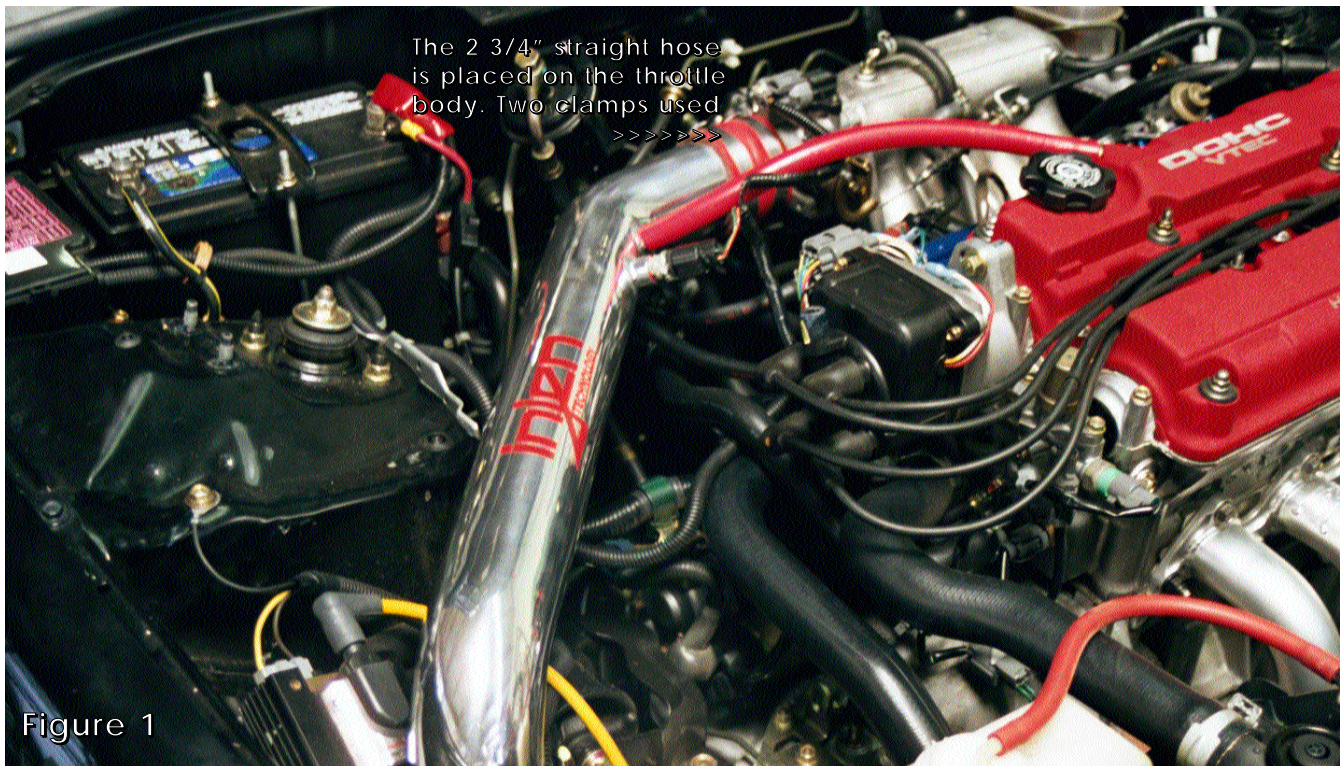

Figure 1
3. Place the 2.75" straight hose over the throttle body and use two clamps. Tighten the clamp on the filter at this point. (See fig. 1)
8. Align the entire cold air intake for best fit. Make sure the intake does not rub anywhere along the length of the intake. (See fig. 1)